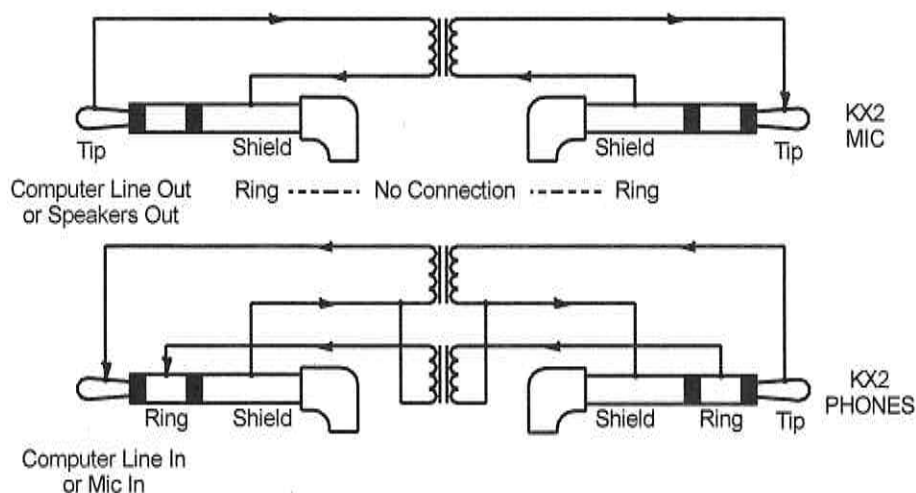
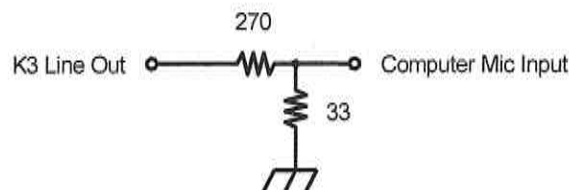

Figure 6-6. Audio or galvanic isolation transformers.²⁴
Figure 6-7. 20 dB attenuator.
The first is to use the internal sound card in your PC or laptop. This approach has the advantage of using simple stereo cables but does not provide signal isolation unless you use external isolation transformers. A way to connect these is shown in Figure 6-6, page 88.
The up/down microphone functions are disabled in **AFSK A** and **DATA A** modes and so you do not have to change the **MIC BTN** menu settings when changing from voice to data modes. However, a stereo cable from the computer's Line Out or Headphones Out may have low enough impedance between the ring and the shield to activate PTT. If this occurs, you should use either a stereo plug with no ring connection or a monaural isolation transformer with no connections to the ring terminals as shown in Figure 6-6. You may also set **MIC BTN OFF** when you're in a data mode. You have to be in a voice mode (USB/LSB) to change this menu setting.
If you cannot locate a ground point on a laptop, or if bonding the cases of the KX2 and the computer together does not sufficiently reduce the noise, you may have to resort to isolating the audio signals. An audio isolation circuit is shown in Figure 6-6. This is also called *galvanic isolation*. A single transformer is used for the monaural MIC signal. Two transformers form a stereo isolation circuit for the PHONES output. If you are going to use the computer only for digital modes, a single audio transformer is suitable for the PHONES isolation.
- Connect the audio cables as shown in Figure 6-4 or Figure 6-6. When using the computer's Mic input, set the Mic gain in the sound card's control menu for the lowest gain that gets the sound card's level display (when one is available) to full scale for the received RTTY signal.
- You may find that the VOX keying stays on continuously. This may be an indication that noise is keying the VOX and that audio isolation as shown in Figure 6-6 may be needed.
- If you find the PTT is continuously activated and a stereo cable is used for the MIC input, there may be a low impedance on the ring terminal. You may need to change the **MIC BTN** menu to **OFF**, or an audio isolation transformer, as shown in Figure 6-6, may be needed. A stereo TRS cable with no ring connection can be used too.
- If you overdrive the computers' sound card by setting the KX2's audio level too high, you may distort the audio and the sound card may not be able to decode the signal. If you are using a Mic input on a laptop, you may have to reduce the KX2's audio (AF) level. Levels appropriate for a Mic input are usually much lower than the levels required for the computer's Line Input.
- A simple voltage divider at the computer's mic input can solve level problems. Figure 6-7 shows a 20 dB (10:1) attenuator that can be built into a full-size 3.5 mm (1/8") plug at the computer mic input.
- Connect the audio cables as shown in Figure 6-4 or Figure 6-6, page 86 – 88. When using the computer's Mic input, set the Mic gain in the sound card's control menu for the lowest gain that gets the sound card's level display to full scale for the received PSK signal.
- You may find that the VOX keying stays on continuously. This may be an indication that noise is keying the VOX and that audio isolation, as shown in Figure 6-6, page 88, may be needed.
- If you find the PTT is continuously activated and a stereo cable is in use for the MIC input, there may be a low impedance on the ring terminal. You may need to change the **MIC BTN** menu to **OFF** or an audio isolation transformer as shown in Figure 6-6 may be needed. A stereo TRS cable with no ring connection can be used too.
- If you overdrive the computers' sound card with a too high level from the KX2's audio out, you may distort the audio and the sound card will not be able to decode the signal. If using a Mic input on a laptop, you may have to reduce the KX2's audio (AF) level.